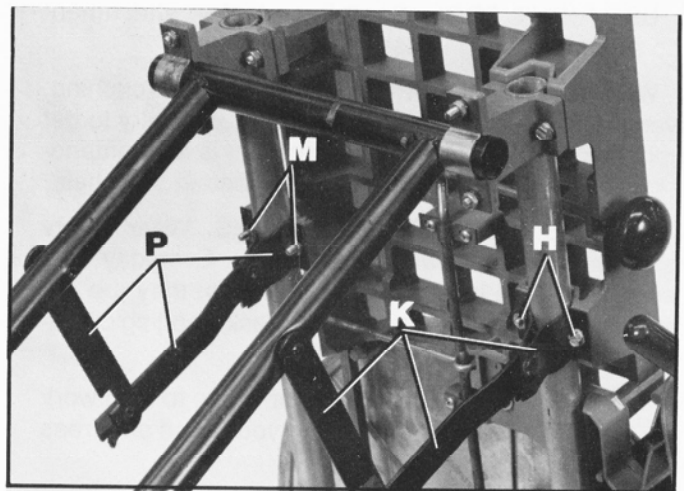

Fig. 5
4. Fasten hinge bracket (K) Fig. 5, to the saw base using the hardware (H) that was removed in STEP 2.
7. Fasten hinge bracket (P) Fig. 5, to the saw base using the hardware (M) that was removed in STEP 5.